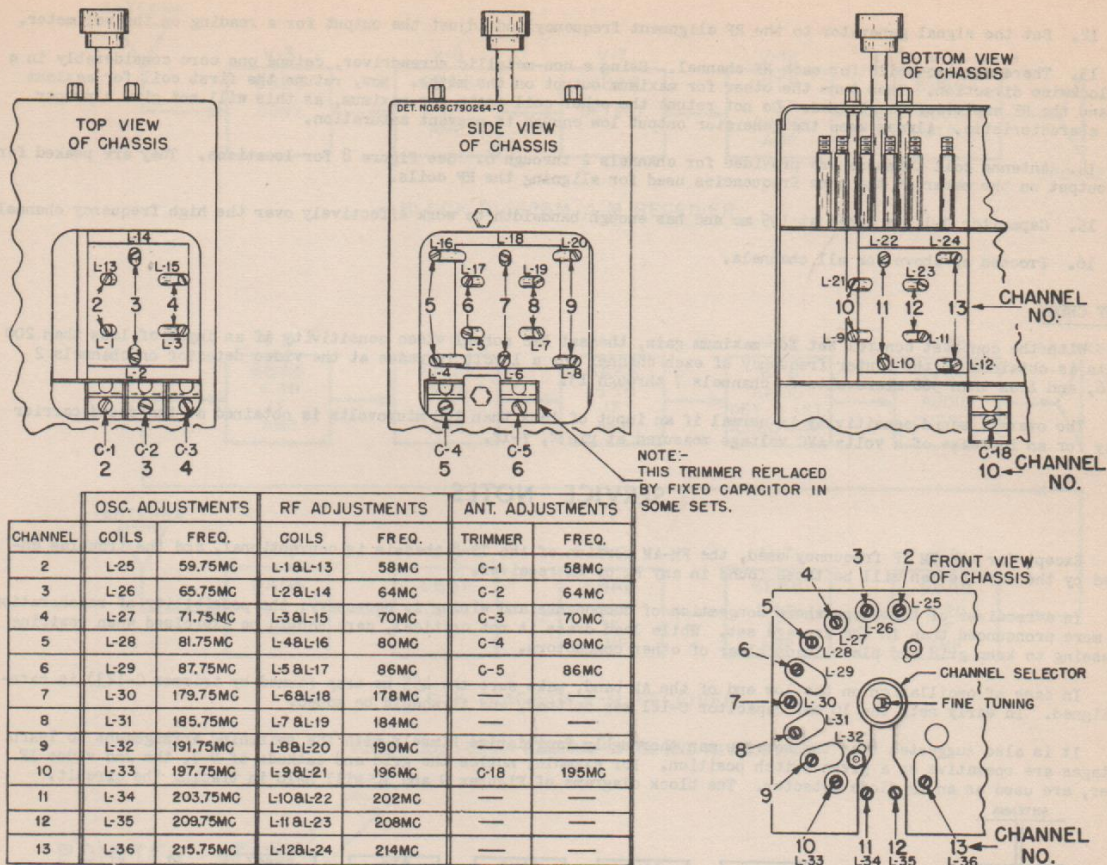

FIGURE 8. OSCILLATOR, R.F., AND ANTENNA ADJUSTMENT LOCATIONS
The locations of the various adjustments are given in Figure 8. It will be noted that the oscillator adjustments are arranged in a counterclockwise sequence on the front side of the chassis, starting with the #2 channel as the first adjustment at the top.
8. Locate the oscillator tuning adjustment belonging to the channel being aligned. See Figure 8. With a non-metallic screwdriver, adjust the oscillator frequency until the meter reading is zero. The meter reading will change rapidly from one polarity, through zero, to the opposite polarity as the oscillator frequency is adjusted to produce the correct sound IF of 21.7 mc.
10. With the oscillator correctly set, the next step is the alignment of the RF amplifier. The RF coils for all channels and the antenna trimmers for the first five channels are aligned at a frequency 1 mc higher than the center frequency of the channel under test; that is, 4 mc above the lower channel limit, or 2 mc below the upper limit. See chart above for channels and Figure 8 for alignment locations and frequencies.
14. Antenna coil trimmers are provided for channels 2 through 6. See Figure 8 for locations. They are peaked for maximum output on the meter at the same frequencies used for aligning the RF coils.